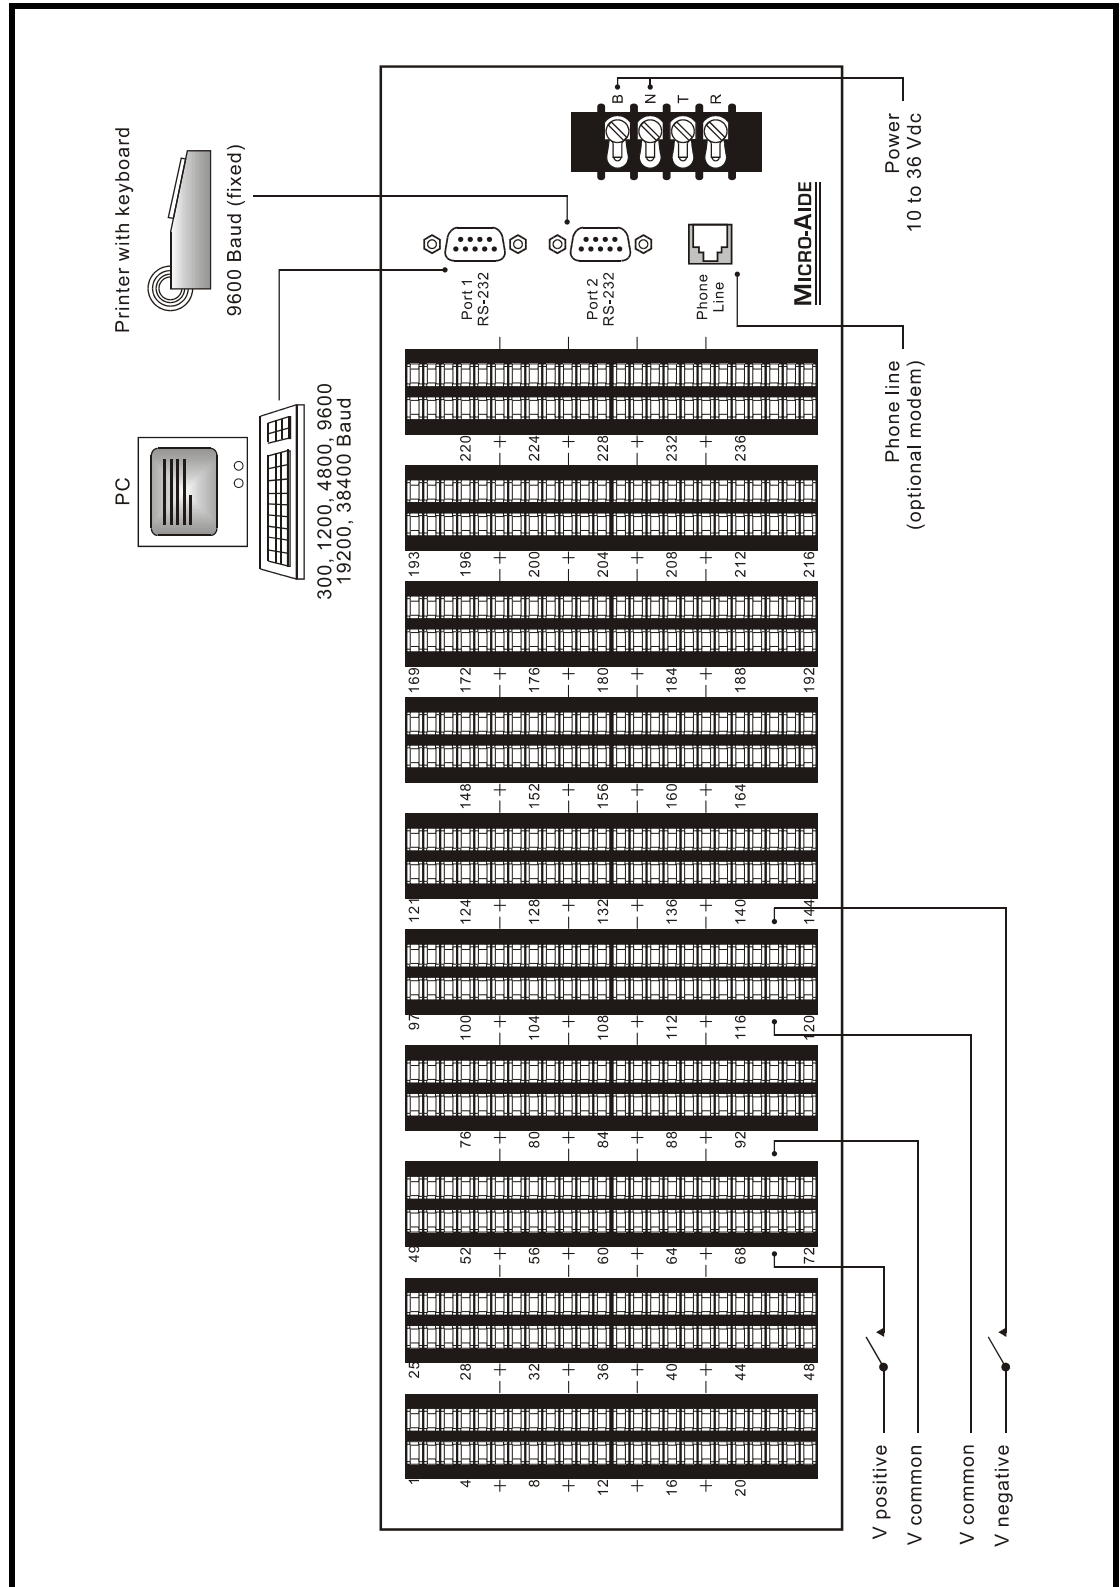

Figure 3 - Typical Installation - Rear Panel View
3. Connect the positive and negative voltages of the power source to the screw terminals at the rear of the unit labeled "B" and "N", respectively. Typical power, cabling and peripheral connections are illustrated in Figure 3 on page 7.
Installation of the Model 240D is very straightforward. The following sections describe the recommended Installation Procedure. Figure 3 on page 7 illustrates the rear panel of the Model 240D. The illustration also depicts the location of each connector and screw terminal.